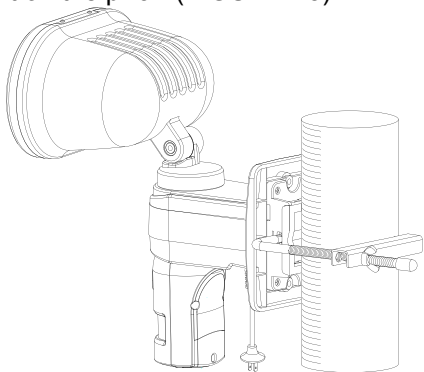

FIGURE 43
(3) Using the thumb nut on the L shaped holder, fasten the unit on the pillar. (FIGURE 43)